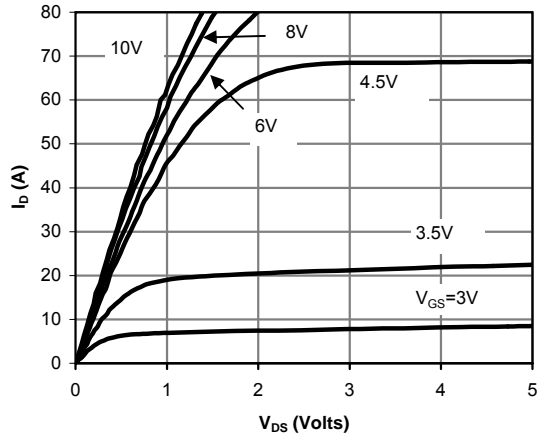

Figure 1: On-Region Characteristics
E. The static characteristics in Figures 1 to 6 are obtained using  $<300 \mu\text{s}$  pulses, duty cycle 0.5% max.